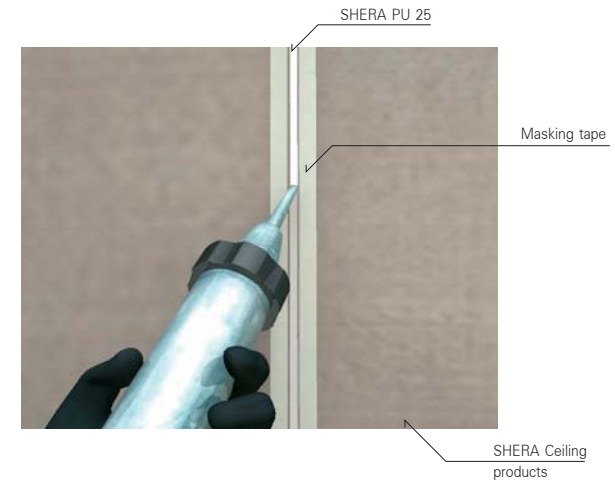

Figure 9 : Polyurethane Sealant Application
- Before putting sealant into the gap between the sheets, cover the edge of sheet with easily removable masking tape. Fill the gap with sealant in an upward motion until it was completed full. Immediately remove the masking tape after complete sealant application. Refer to figure 9 for application method.